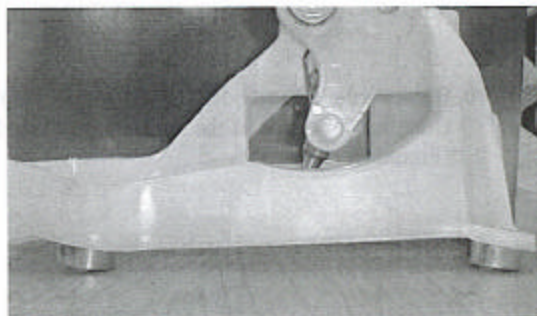

Figure 9
1. Place the 4 bushings in the bottom of the TRD shift lever assembly (Figure 9).